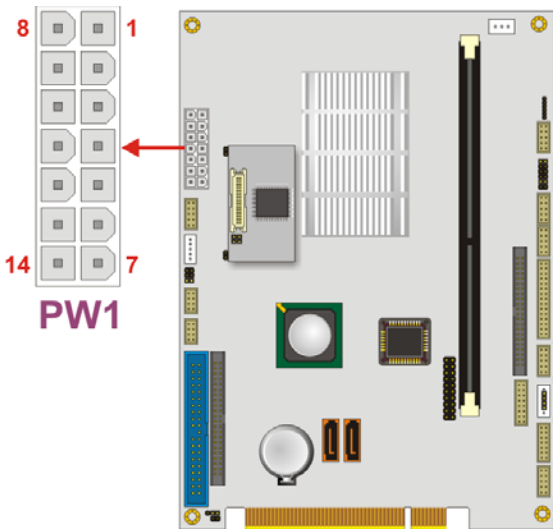

Figure 3-16: Power Connector Location
- CN Location: See Figure 3-16